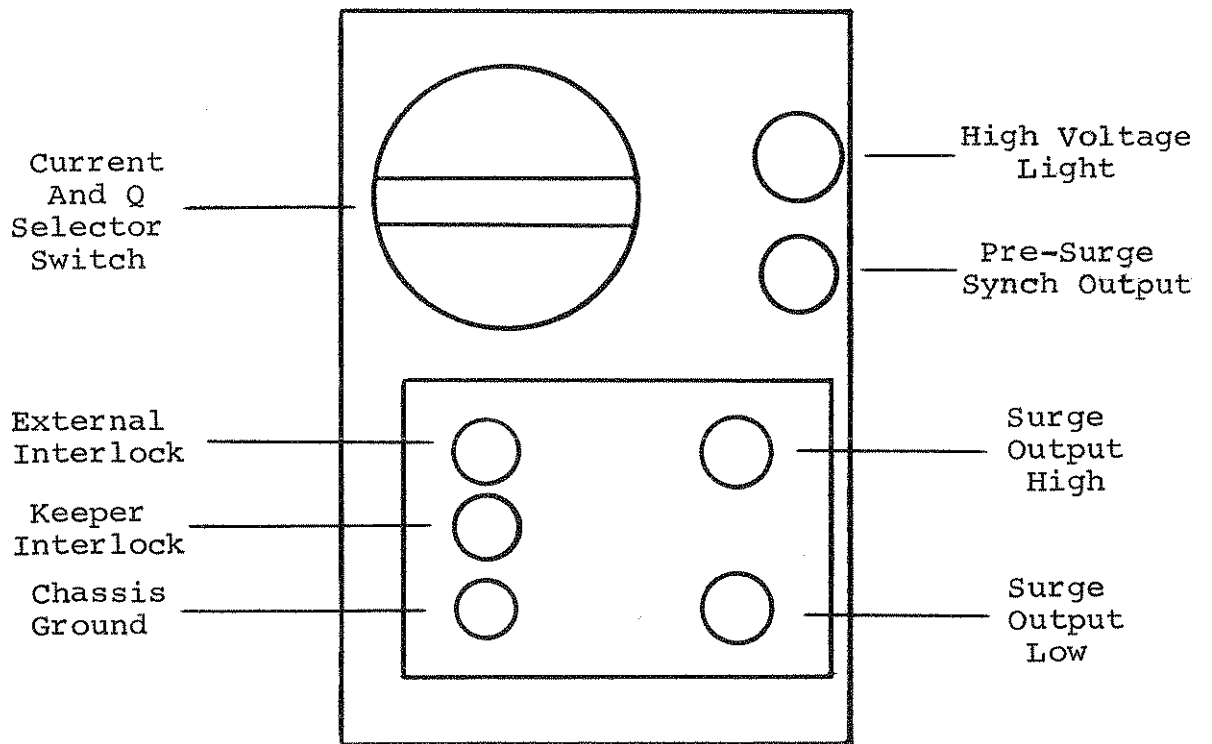

Fig. 3-1
1. P1: Select desired mode: 200A or 500A, at standard IEEE 587 Q, or enhanced Q. The bat-handle selector switch operates like the Model 711 Surge Polarity Switch. (See Fig. 3-1.)